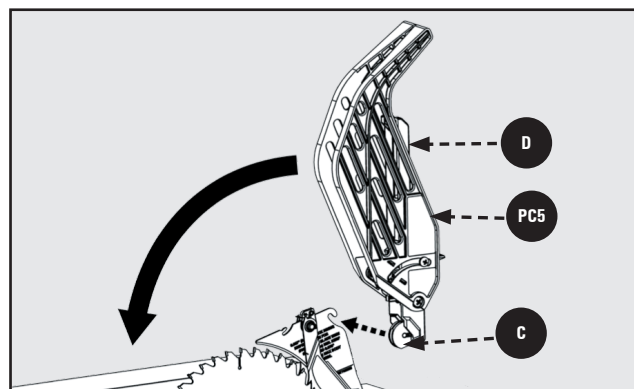

FIGURE 14
1. Before installing the Blade Guard Assembly, make sure the riving knife is raised to the thru-cut position. While holding the Blade Guard Assembly in a vertical position, hook the Locating Pin at the back end of the Blade Guard Assembly into the slot at the back edge of the Riving Knife. See Figure 14.